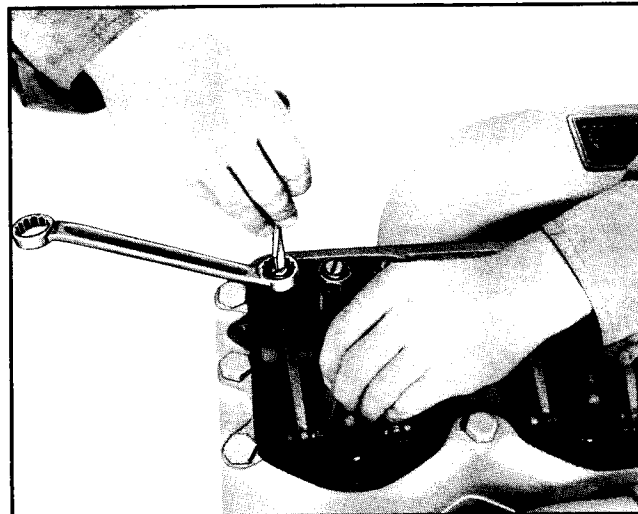

Fig. 3-12. Adjusting valves
2. Loosen the locknut and back off the adjusting screw. Insert the feeler gauge between the rocker lever and top of the valve stem or crosshead, and turn the screw down until the lever just touches the gauge. Lock the adjusting screw in this position with the jam nut. Fig. 3-12.